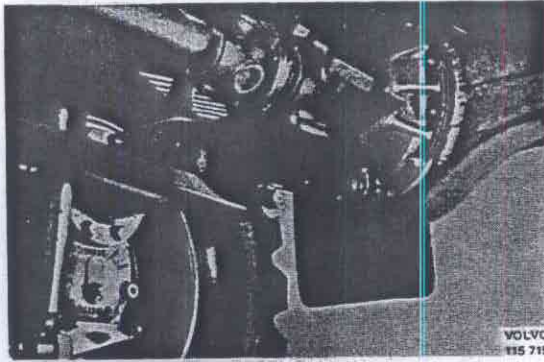

Fig. 46-27. Differential sleeve
8. Remove the propeller shaft from the differential carrier flange, Fig. 46-27.